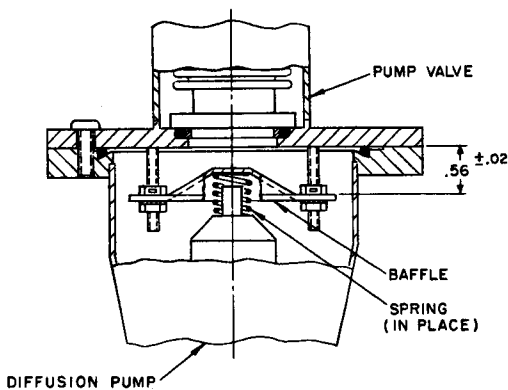

Figure 6-15. Correct Baffle Position
8. Wash the complete pump valve body assembly with methanol and dry thoroughly. If the nuts securing the baffle are disturbed, reposition them and tighten *securely* so that the baffle flange is 0.56 ± 0.02 inches (14.2 ± 0.5 mm) from the underside of the pump valve flange (Figure 6-15).